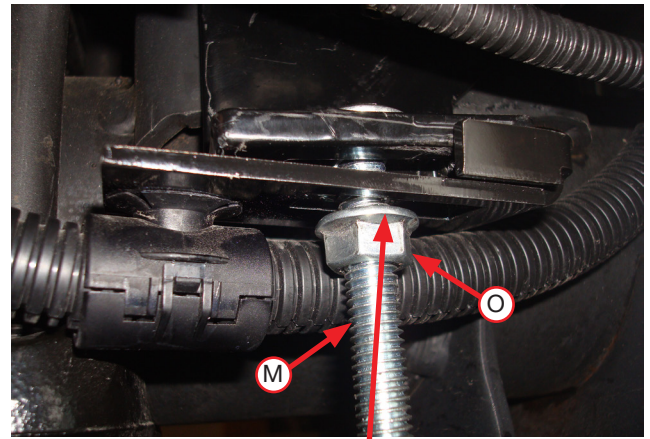

Fig. 16
- Attach the ABS loom holder (previously removed) to the underside of each ABS loom bracket (J & K) supplied (Fig. 15). The left-hand side is for the driver's (left) side, the right-hand side is for the passenger's (right) side. Once installed, the brackets will nest around the bottom of the lower bracket (Fig. 16).
3. Insert a 3/8" carriage bolt (M) through the lower bracket and ABS loom holder previously installed (Fig. 16). Install a 3/8" serrated flange lock nut (O) onto the carriage bolt with the flat portion of the nut facing up. Tighten nut up enough to nest the ABS bracket around the lower bracket, but do not tighten yet. Repeat for both sides.